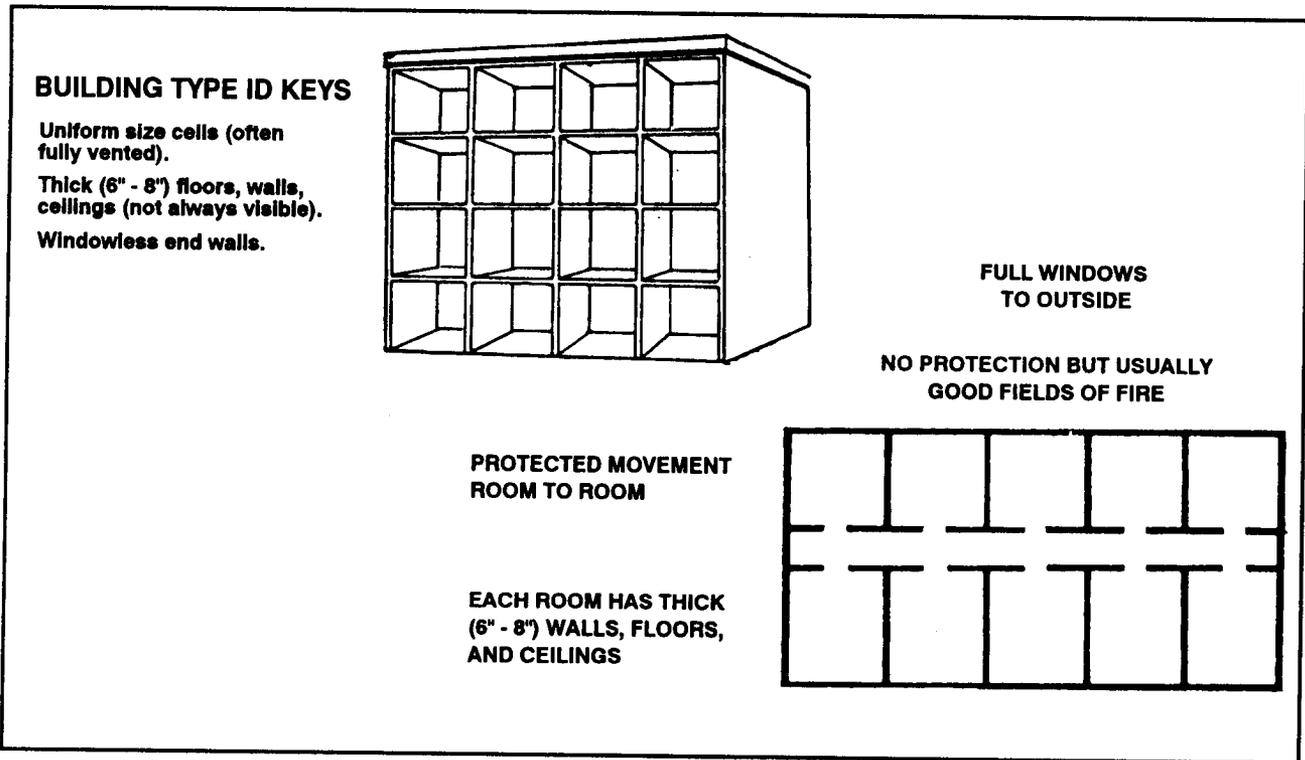

Figure H-5. Box-wall principle building.
c. Another mass-construction building is the box-wall principle type. It is made from prefabricated concrete panels, which are made of 6- to 8-inch-thick reinforced concrete. The outside wall is often glass. The box-wall principle building provides good cover, except at the glass wall. The rooms are normally too small for ATGMs to be fired. A good circulation pattern exists from room to room and from floor to floor. These buildings are commonly used as hotels or apartments and are located in residential and outlying areas (Figure H-5, page H-4).